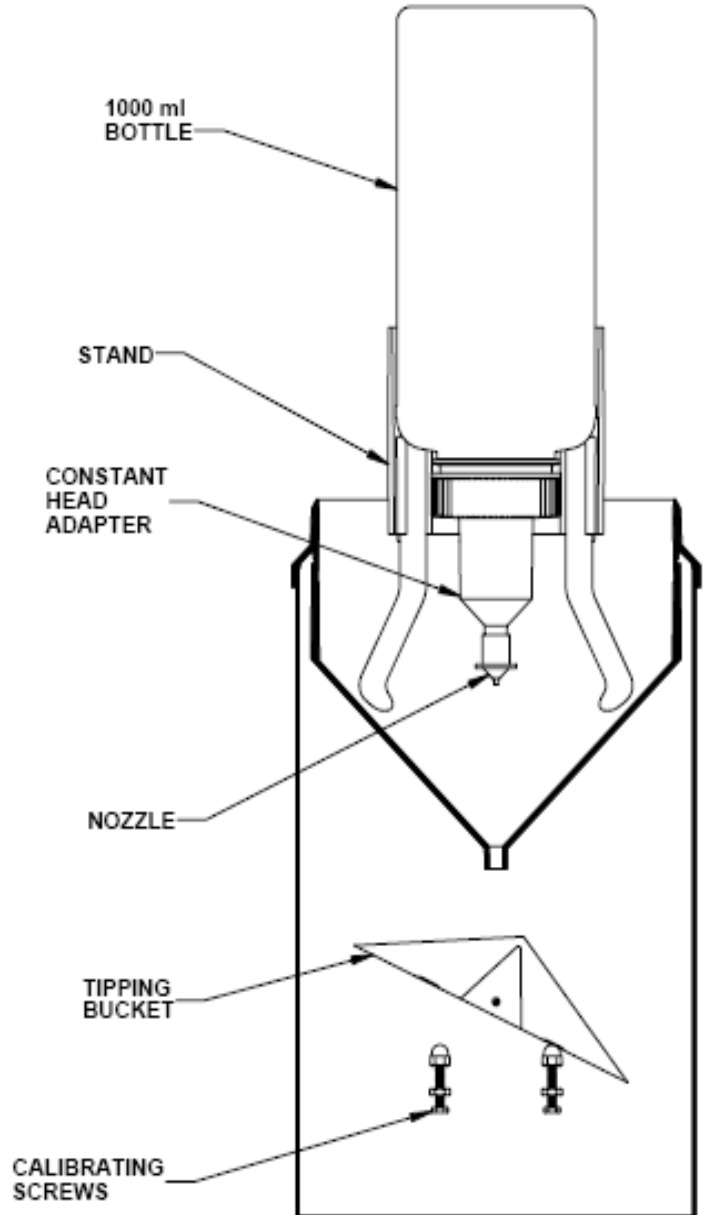

Figure 1: 52260CS and Rain Gauge Schematic
5. Position the bottle stand in the rain gauge funnel. Carefully invert the calibration bottle and place into stand. Water should flow from the nozzle. Be sure to position the bottle stand so that the water hits against the funnel sides and not directly into the funnel hole (Figure 1).